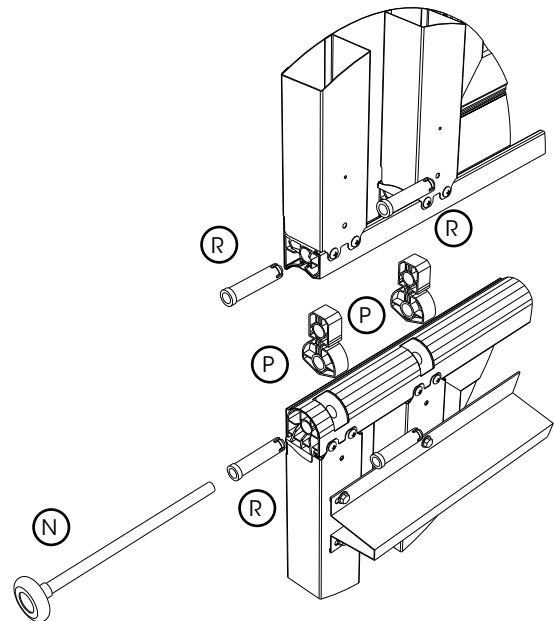

Fig: 2.2.4
- a) Insert the polyethylene hinge links (P) into the recesses of the top of the panel and fix into place using the white hinge pins (R). Fig 2.2.4.
- b) Insert 4 x the appropriate wheel axle (N) (standard, extended or smooth track) into the top and bottom of the panel.